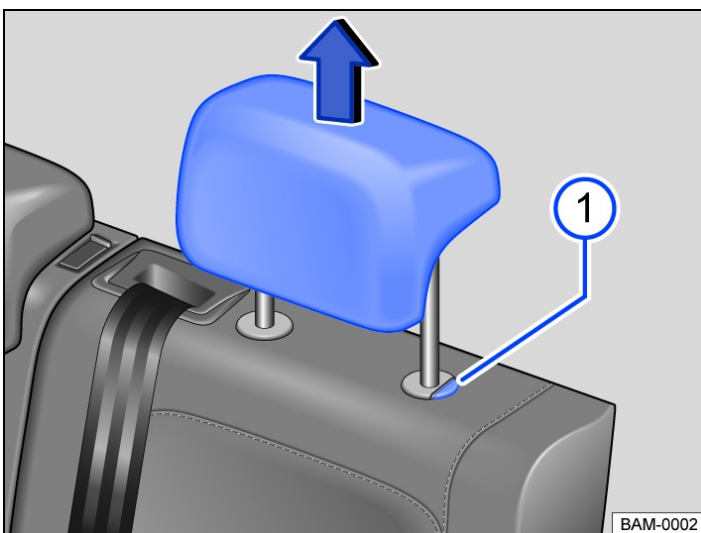

Fig. 2 Rear head restraint: removing.
- Pull the head restraint out fully while pressing the button → Fig. 2 1.
- Press and hold the button → Fig. 2 1 and push down the head restraint.